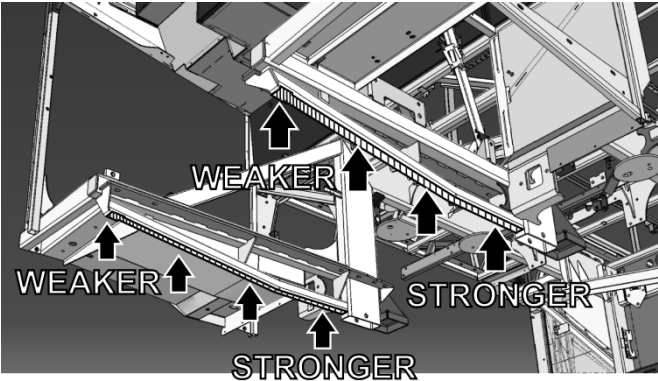

FIGURE 53: UNAPPROVED LIFTING POINTS FOR REAR END TOWING – SIDE MEMBERS LOCATED UNDER THE ENGINE CRADLE SUPPORT RAILS
In an emergency or if the vehicle has to be moved over a short distance, the side members may be used as lifting point. Try to lift from the strongest location along the side members which is near the rear sub-frame vertical member (Figure 53).
**Lifting from the engine cradle is the least preferred option and should be done only if lifting from under the side members shown on Figure 53 cannot be achieved**